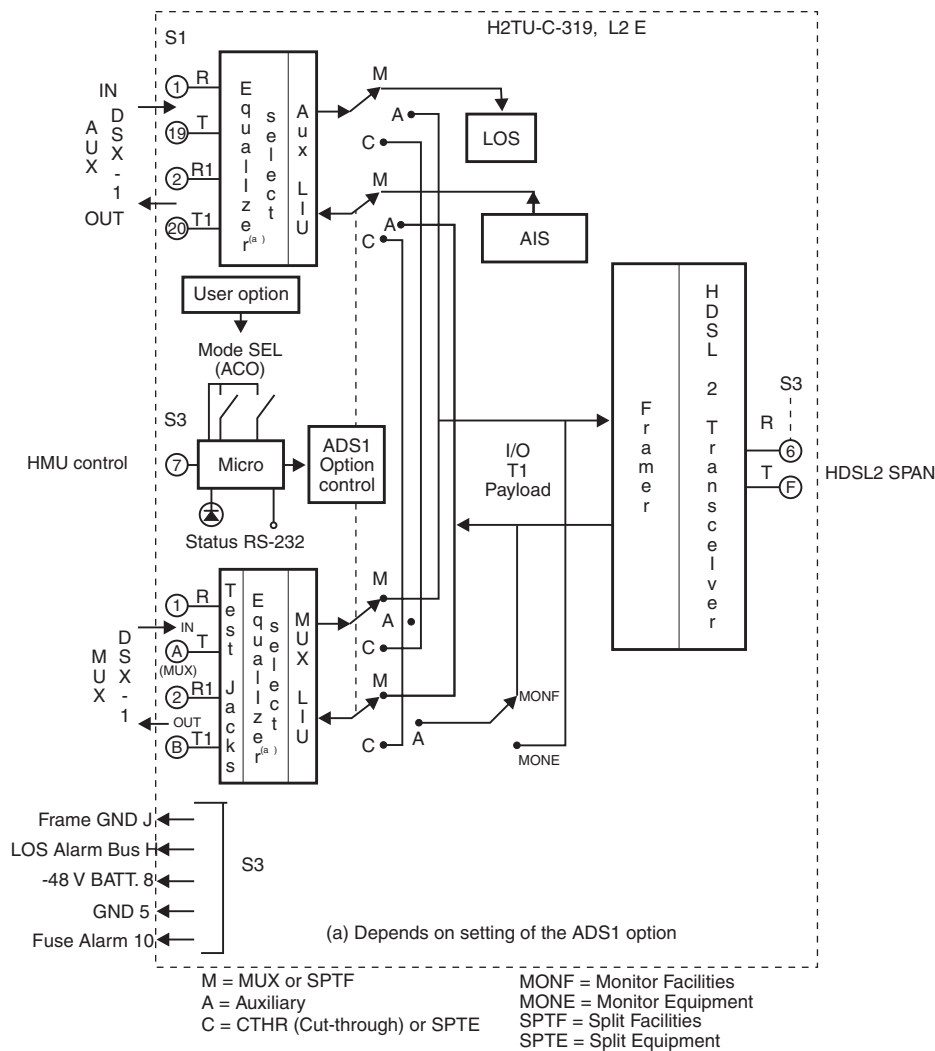

Figure 30. H2TU-C-319 List 2E Block Diagram
Figure 30 shows a block diagram of the H2TU-C-319. The H2TU-C-319 receives a 1.544 Mbps DSX-1 data stream from the DSX-1 digital cross connect interface. The H2TU-C contains a DS1 frame synchronizer controlled by an 8-bit microprocessor that determines the type of framing on the DS1 stream and synchronizes to it. The H2TU-C recognizes Superframe (SF), including D4, or Extended Superframe (ESF) framing.